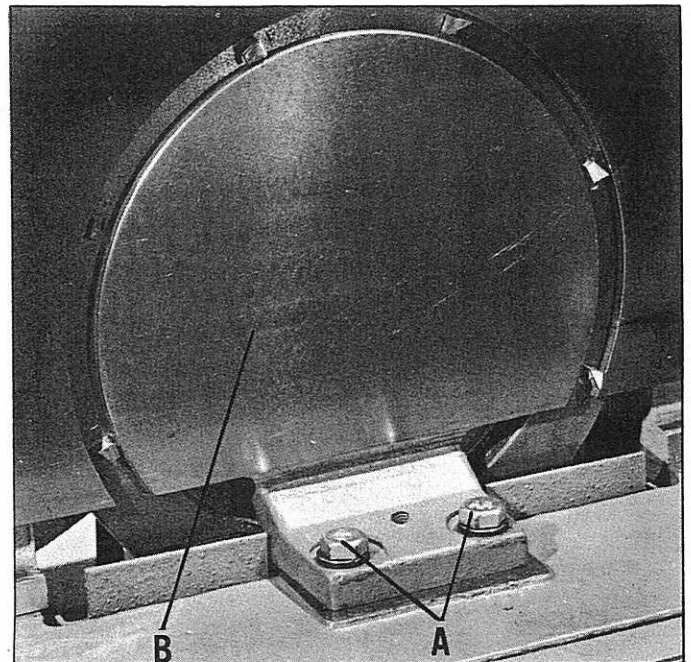

Fig. 25.
3. Remove two screws (A) Fig. 25, and remove the center fence (B) by pulling it straight out.